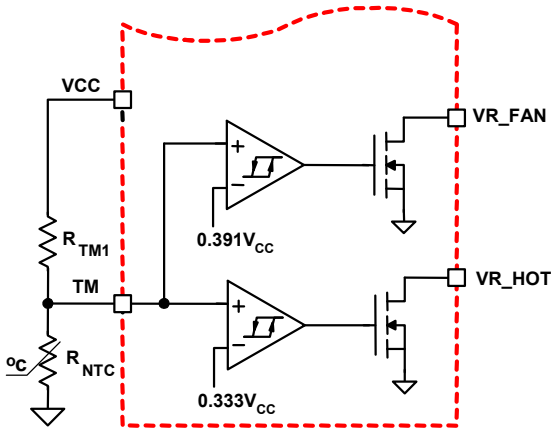
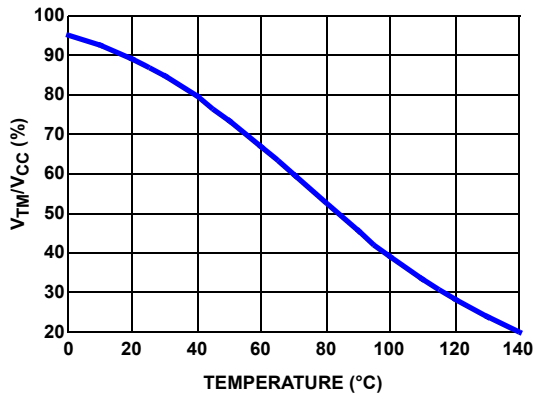

FIGURE 14. BLOCK DIAGRAM OF THERMAL MONITORING FUNCTION
FIGURE 15. THE RATIO OF TM VOLTAGE TO NTC TEMPERATURE WITH RECOMMENDED PARTS
The diagram of the thermal monitoring function block is shown in Figure 14. One NTC resistor should be placed close to the power stage of the voltage regulator to sense the operational temperature, and one pull-up resistor is needed to form the voltage divider for TM pin. The NTC thermistor should be placed next to the current sense element of a phase that will remain active when $PSI\#$ is asserted low. As the temperature of the power stage increases, the resistance of the NTC will reduce, resulting in the reduced voltage at the TM pin. Figure 15 shows the TM voltage over temperature for a typical design with a recommended $6.8k\Omega$ NTC (P/N: NTHS0805N02N6801 from Vishay) and $1k\Omega$ resistor RTM1. We recommend using these resistors for accurate temperature compensation.
Based on the VCC voltage, ISL6336, ISL6336A converts the TM pin voltage to a 6-bit digital signal for temperature compensation. With the non-linear A/D converter of ISL6336, ISL6336A, the TM digital signal is linearly proportional to the NTC temperature. For accurate temperature compensation, the ratio of the TM voltage to the NTC temperature of the practical design should be similar to that in Figure 15.
1. Properly choose the voltage divider for TM pin to match the TM voltage vs temperature curve with the recommended curve in Figure 15.